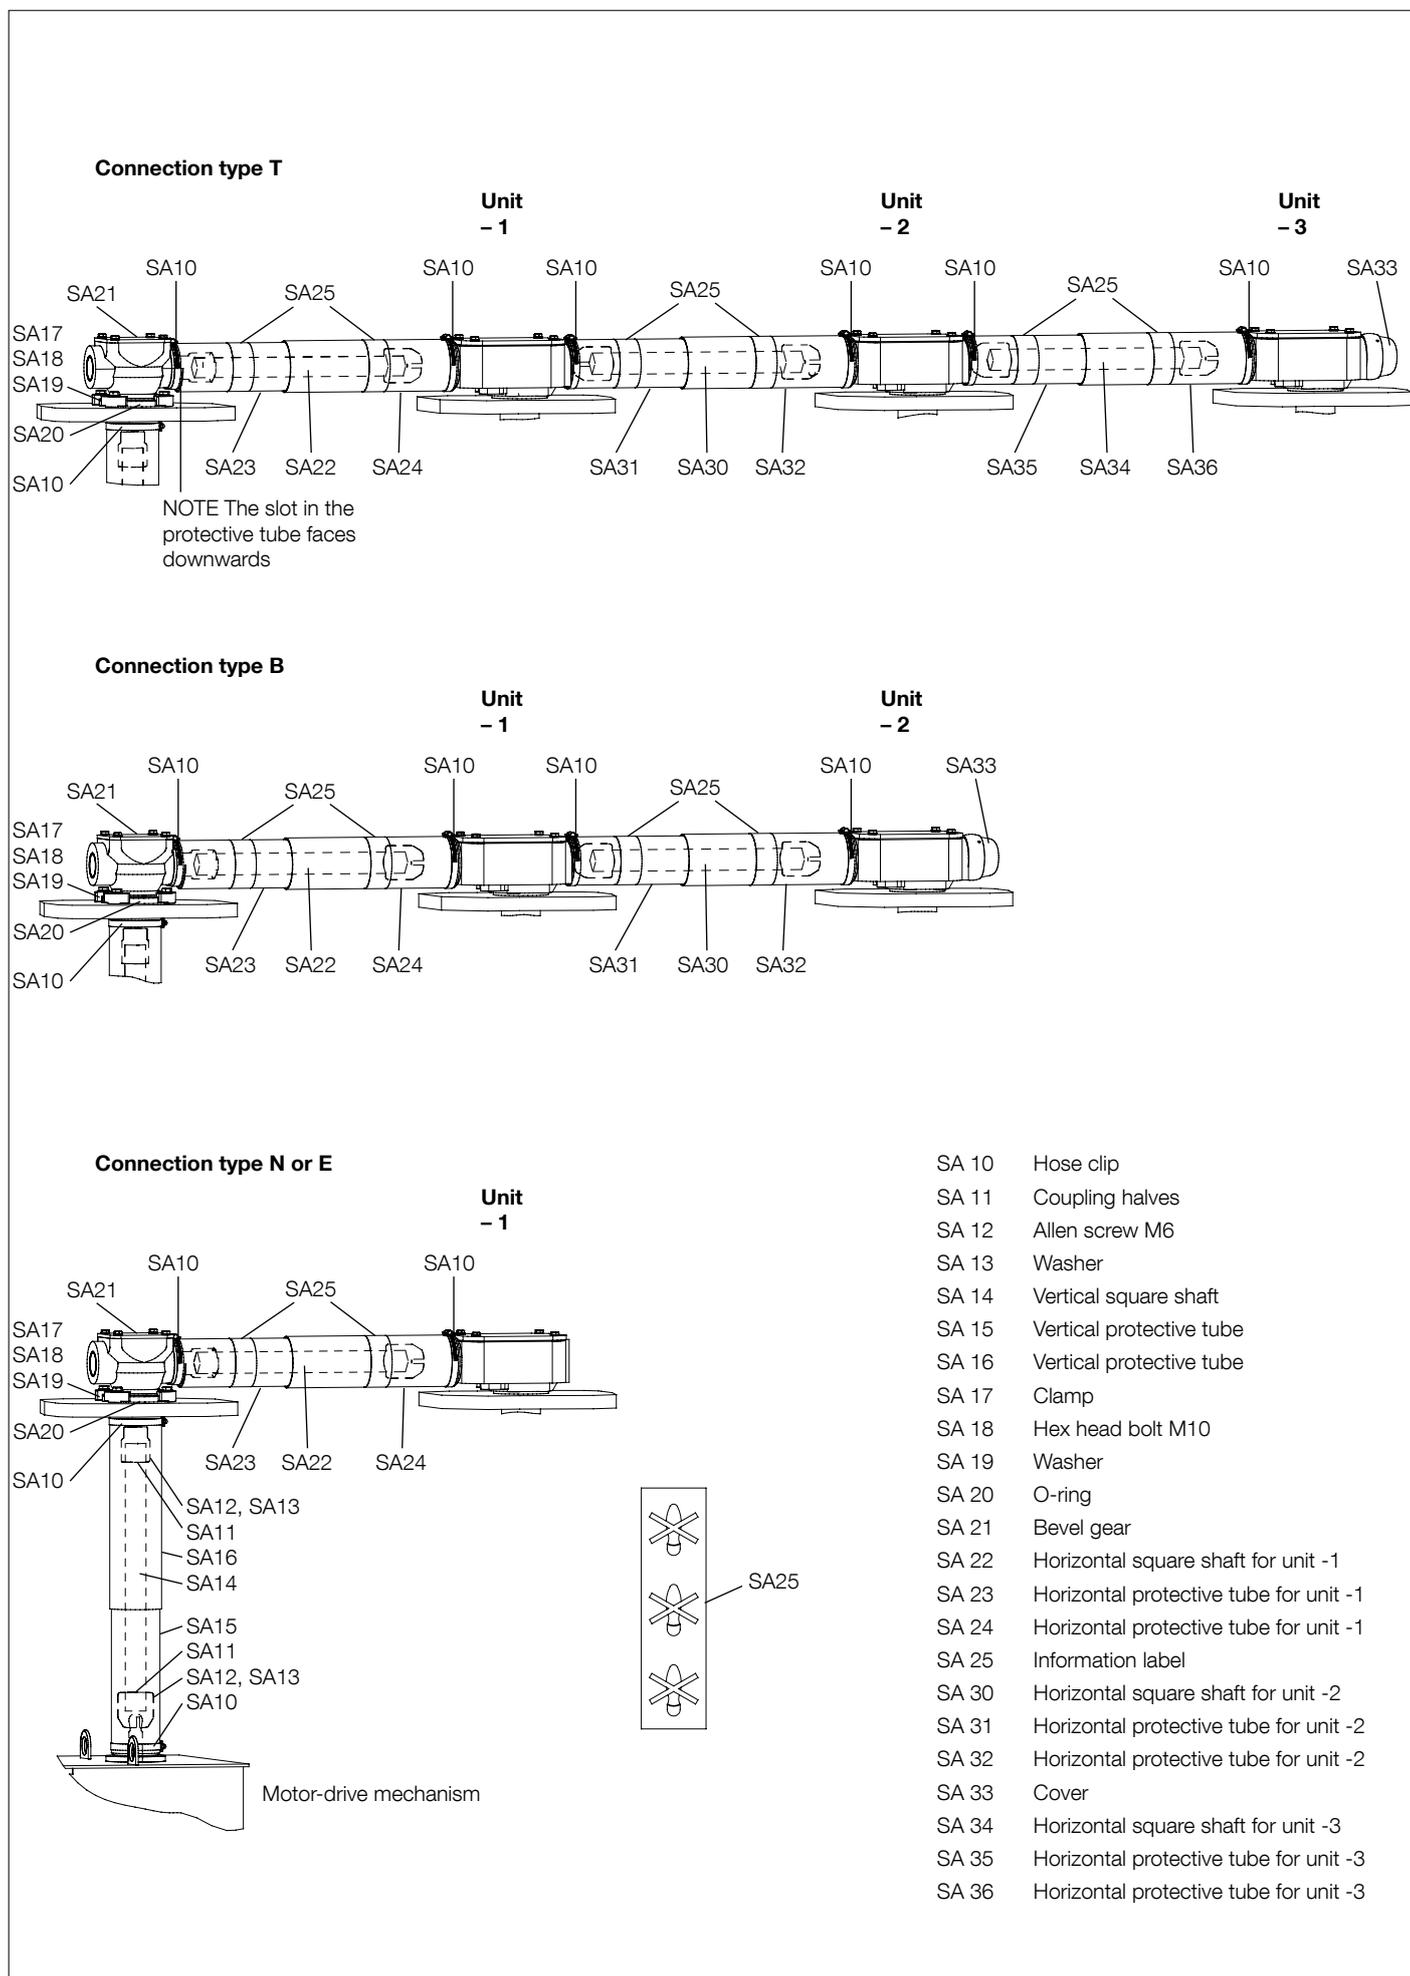

Fig. 26. Shaft system.
2. Install the bevel gear SA 21 on the edge of the transformer cover; see Fig. 26.
The arrangement of the drive shaft system is shown in Fig. 26.
1. Mount the bevel gear SA21 on the transformer, with O-ring SA20, four clamps SA17, hex head bolts M10, SA18 and washers SA19; see Fig. 26.
The following applies to the fitting of drive shafts and their protective tubes when the tap-changer consists of two phases UCL.B/VUCL.B. The tap-changer unit, which is placed closest to the drive mechanism, is called unit **-1**, and the second unit **-2**; see Fig. 26.